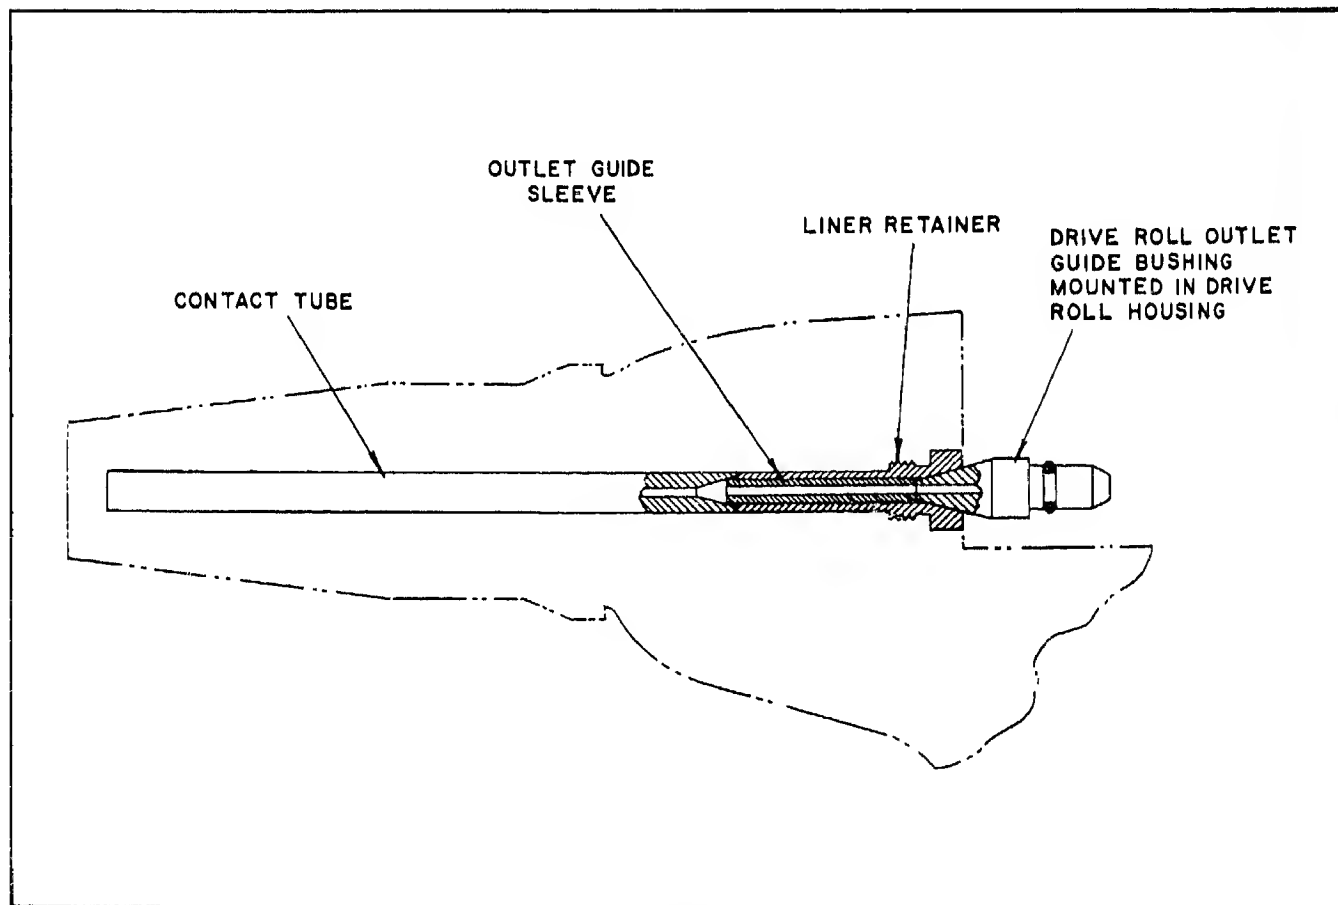

Figure 15. Final Position of Wire Guide Fittings in Gun Barrel
a. Insert a 1-3/16-inch long outlet guide sleeve (Fig. 14) into liner retainer of Gun. Push sleeve all the way in until end is at base of retainer counterbore (Fig. 15). (Slots in retainer hold the sleeve in place.)
f. Slide contact tube with collet and nut onto wire protruding from Gun. Push contact tube into barrel until it touches liner retainer (Fig. 15).